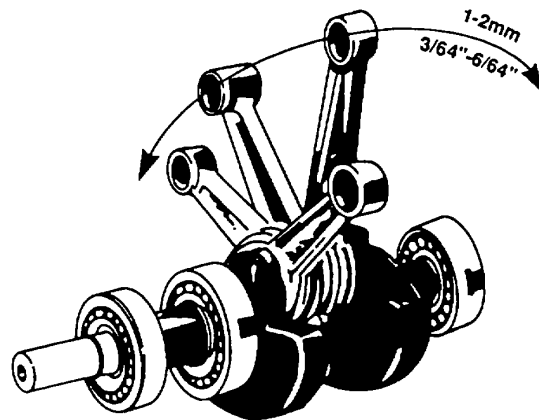

Figure 5-2. Connecting Rod Radial Play
- c. Radial play of the bearings (figure 5-2). The radial play of the connecting rod bearings is correct when all connecting rod small ends can be tilted by 0.4 to 0.8-inch (1 to 2 mm). If these tolerances are not met, replace the complete crankshaft and connecting rod assembly